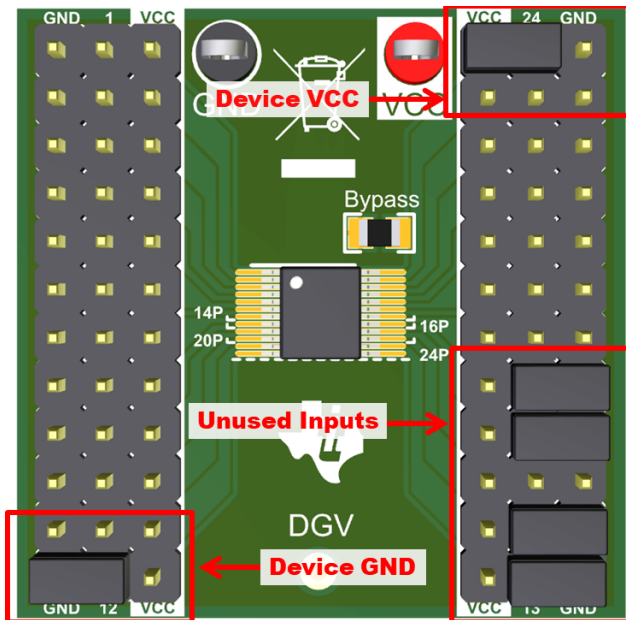

Figure 4. Shunt Usage for Device Evaluation
- Repeat step 5 for the GND pin and any unused input pins of the device. Figure 4 shows an example of how to use shunts to both power the device and tie unused inputs to a defined logic state to prevent them from floating. For more information on why it is important to avoid floating inputs, see the Implications of Slow or Floating CMOS Inputs application report.